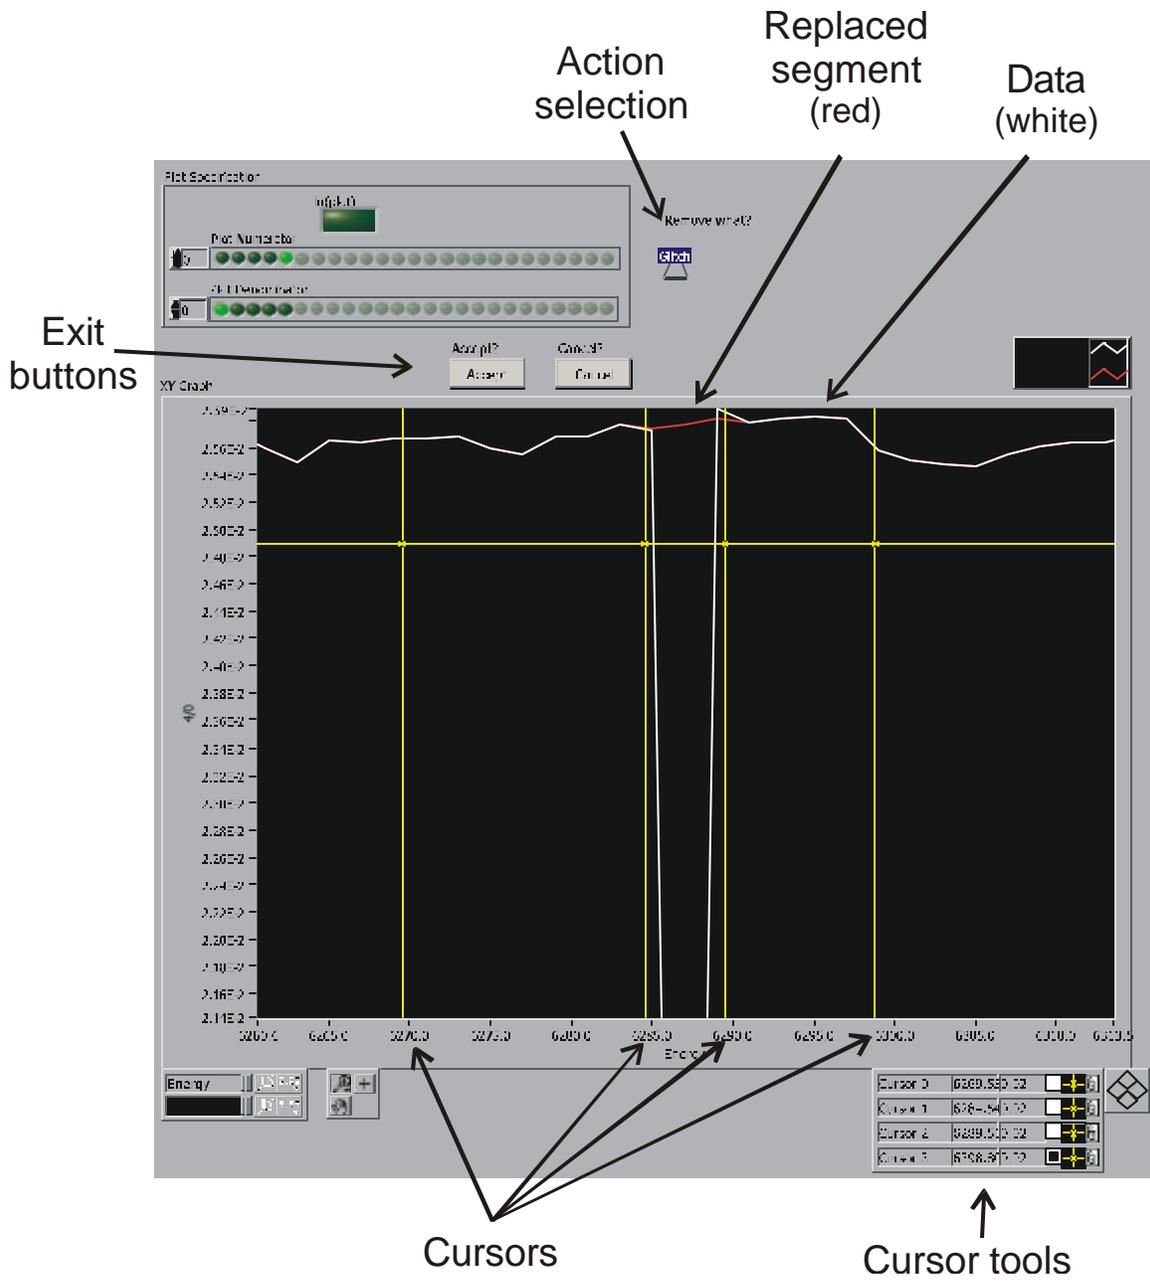

Figure 2. The glitch/jump removal screen, showing glitch removal.
Now I will describe the specifics of the glitch/jump removal commands, which are accessible through the three buttons shown on the tab control in Figure 1. Pressing the `Glitch removal` or `Jump correct` buttons brings up a screen like that in Figure 2. The `Glitch removal using reference scalers` brings up a screen which is similar but has more space for the plot specification control. There are two reasons for this difference; glitch removal with reference scalers is implemented in a separate subroutine, and also this function tends to be used with multi-element detectors for which there will be many scaler channels.
First, consider glitch removal, as shown in Figure 2. The procedure is:
2. Push the `Glitch removal` button. The screen in Figure 2 pops up with the graph abscissa limits the same as in the zoomed areas you selected in the main screen.
Jump correction works in the same way. In fact, the toggle marked `Action Selection` in Figure 2 lets you change modes without having to go back to the main screen.